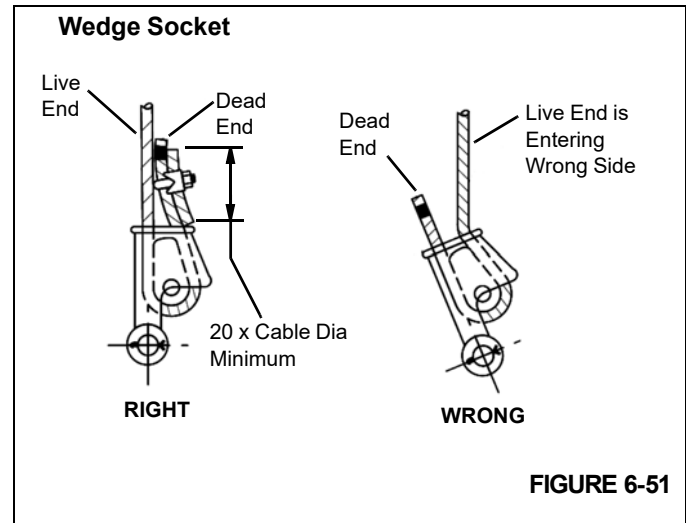

FIGURE 6-51
3. Make sure the live-end (Figure 6-51) of the rope is directly in line with the ears of the socket and the direction of pull to which the rope will be subjected. If the rope is loaded into the socket incorrectly, under a load the rope will bend as it leaves the socket, and the edge of the socket will wear into the rope causing damage to the rope and eventual failure.
4. Insert the end of the wire rope into the socket, form a loop in the rope, and route the rope back through the socket allowing the dead-end (Figure 6-51) to protrude from the socket. Ensure the dead-end of the rope is of sufficient length to apply end treatment to the dead-end after the wedge has been seated.